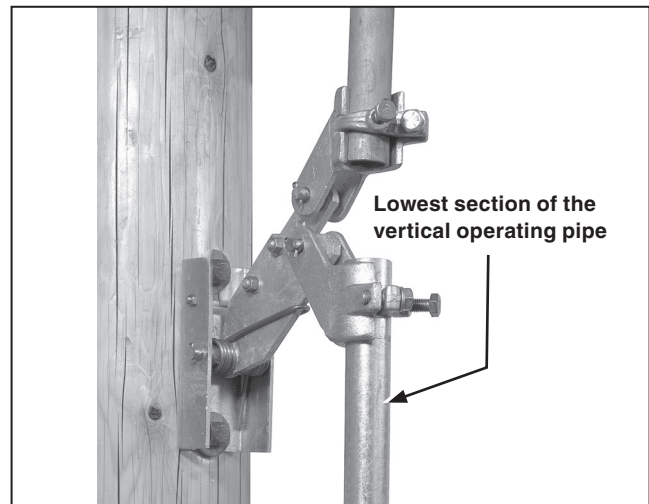

Figure 20. Installing the lowest operating pipe section into the rod guide.
STEP 18. Insert the upper end of this pipe section in the lowest rod-guide coupling (or, if only one vertical pipe section is used, the bell-crank coupling) and, while holding the operating handle at a point approximately 20 degrees from the **Closed** position, tighten the rod-guide (or bell-crank) clamp bolt. See Figure 20.